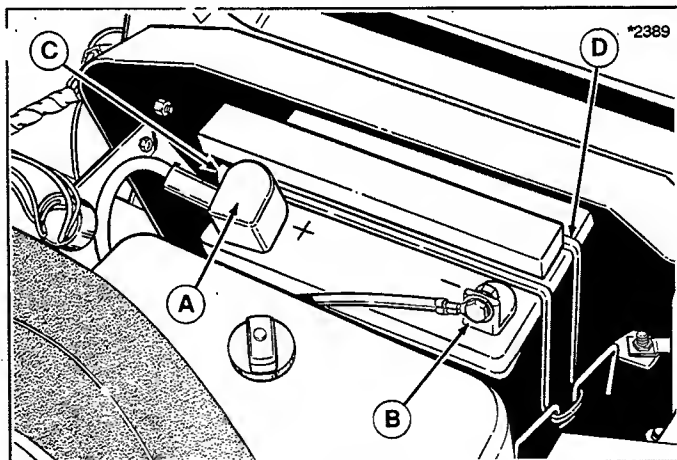

Figure 17. Battery
1. Open engine compartment to locate battery (figure 17). Disconnect the cables from the battery, negative cable first. A positive "+" sign is stamped on the battery next to the positive terminal.
2. Remove the battery holddown strap (D, figure 17). Separate the battery cap from the vent tube (C). The vent tube should remain routed through the frame. Remove the battery.